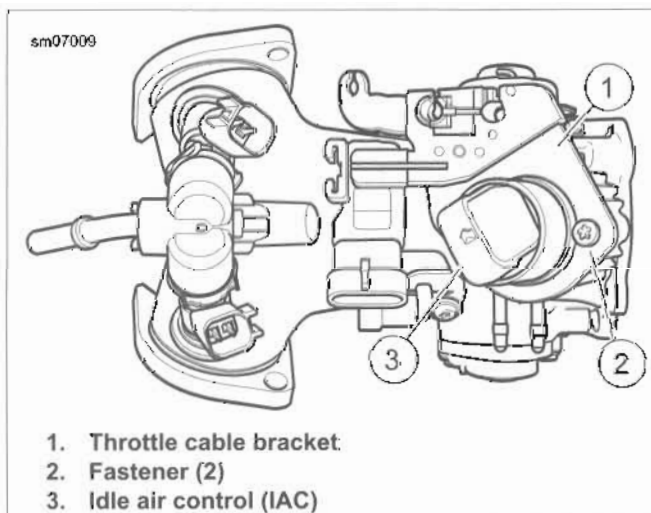

Figure 4-22. Idle Air Control (IAC) Location
2. See Figure 4-22. Remove two fasteners (2) to release throttle cable bracket (1) from induction module. Discard fasteners.
5. See Figure 4-22. Install **new** throttle cable bracket fasteners (2). Tighten to 20-35 in-lbs (2.3-4.0 Nm).